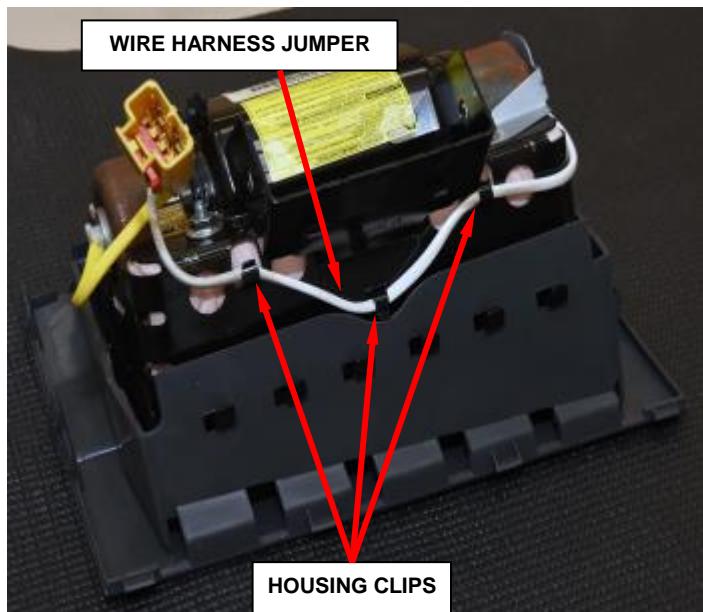

Figure 6 – Wire Harness Jumper
c. Disengage the wire harness jumper from the housing clips in three places (Figure 6).